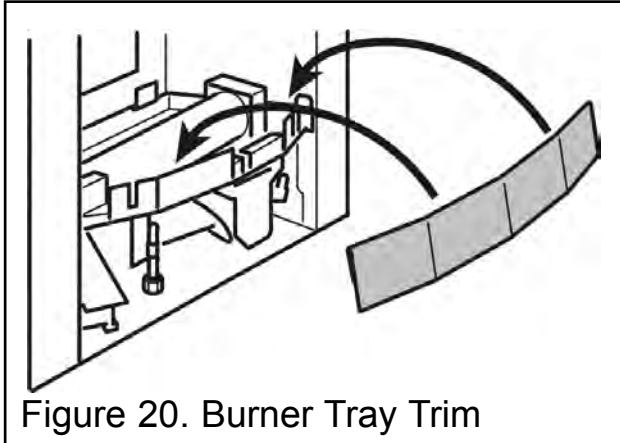

Figure 20. Burner Tray Trim
1. Fit the burner tray trim over the front rim of the burner tray. Push the trim fully down (See figure 20).